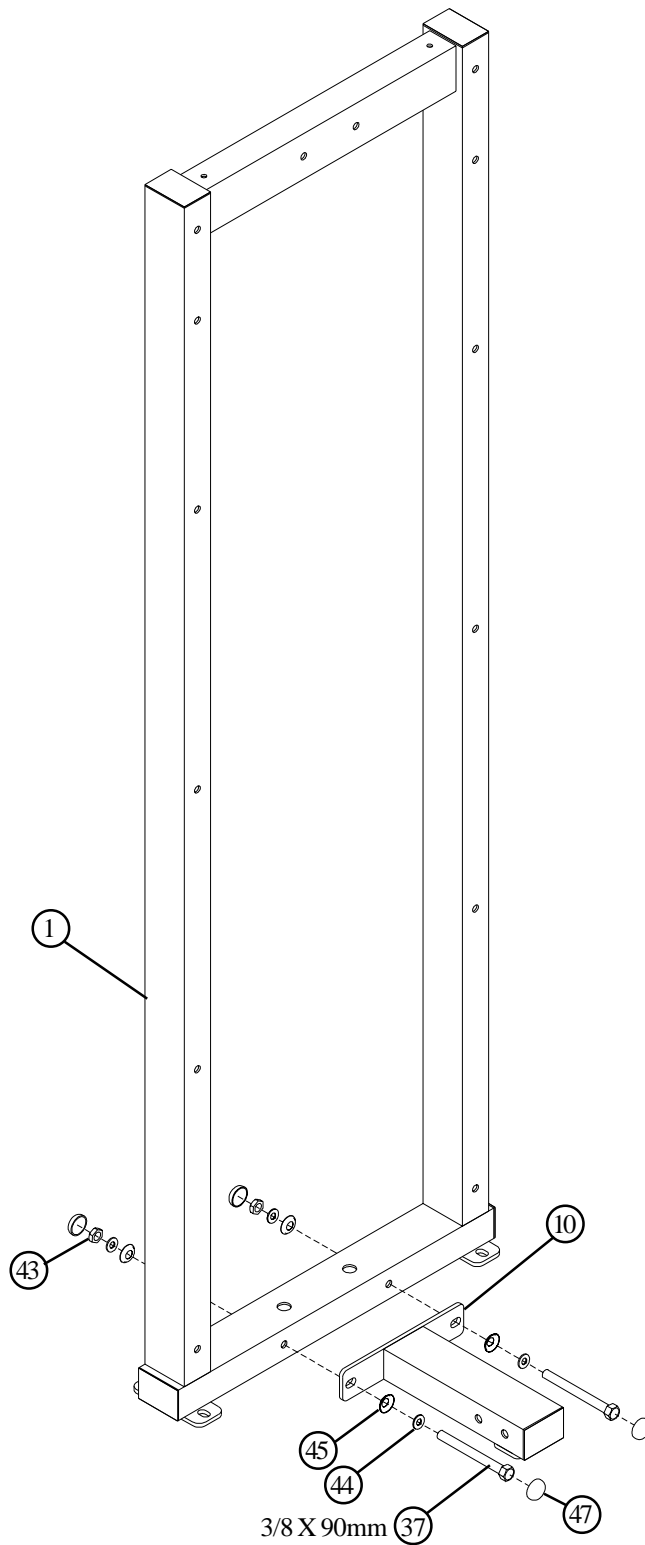

FIGURE 1
- **LOOSELY** assemble the LAT/LOW BASE (10) to the TOWER (1) using four RH CAPS (47), two 3/8 X 90mm BOLTS (37), four 3/8" SAE WASHERS (44), four 3/8" RH WASHERS (45) and two 3/8" LOW HEIGHT LOCK NUTS (43) as shown in FIGURE 1.